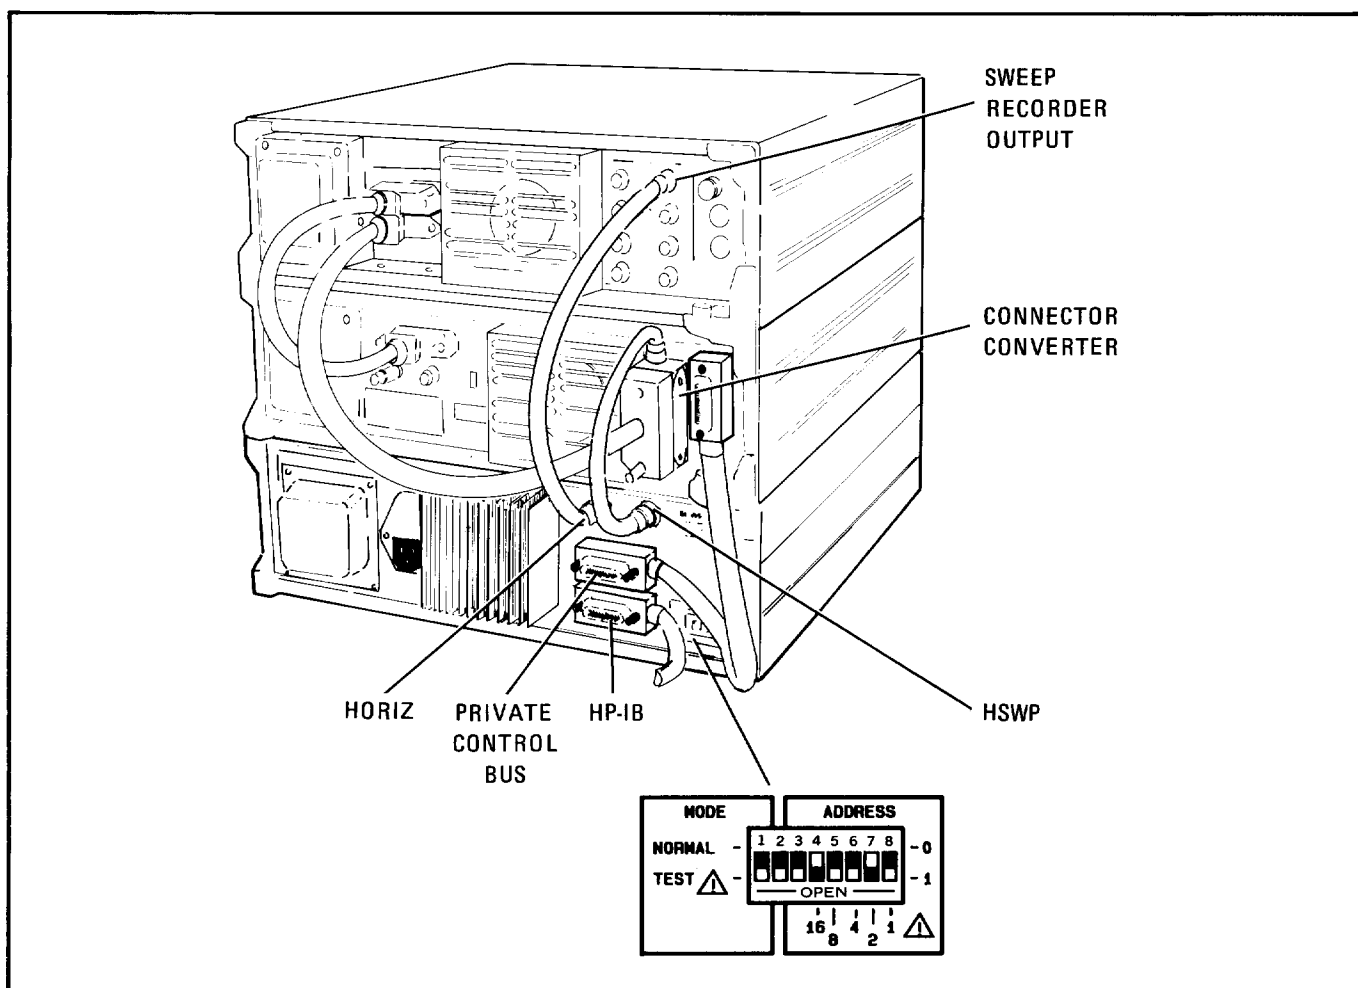

FIGURE 2-5. PRESELECTOR-SPECTRUM ANALYZER CONNECTIONS
For steps 7 - 10, refer to Figure 2-5.
13. The preselector address is preset at the factory to 18 (see Figure 2-5). To activate the private control bus, be sure that the address switch on the preselector rear panel is set to 18, or some **even** address not greater than 30. Additional preselector address information is found in the **REMOTE OPERATION** section of this manual.